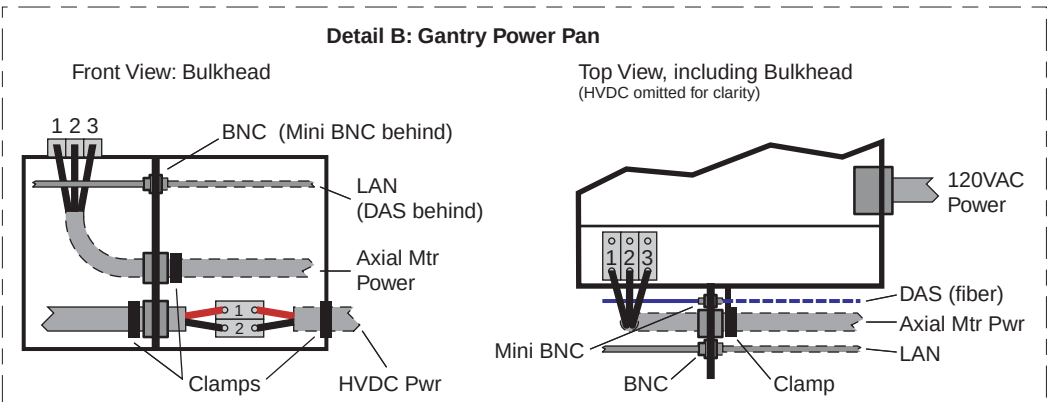

Figure 2-17 Power Pan Connections
- 2.) Install the cables to the gantry power pan. The power pan is located on the rear of the gantry at its base. See “Detail B” (Figure 2-17) of the system interconnect drawing for connections.
Observe correct phase rotation when connecting the axial motor power. Phases one, two and three should be connected left to right, as shown in Figure 2-17.